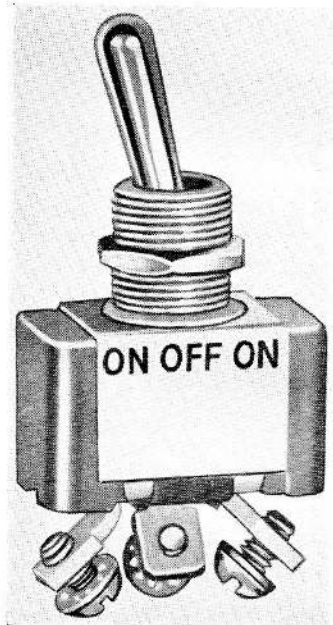

Fig. 1. Switch, Type 11TS1-1
2. These switches, of which representative types are illustrated in fig. 1 to 3, may be either two-position or three-position. Some are designed for single-hole mounting, being secured to the panel by a hexagon nut, lock washer and locking ring. The locking ring may be used to lock the switch against rotation by means of a keyway tab and a tab which projects into a hole or slot in the panel. Others are secured to the panel by two screws.